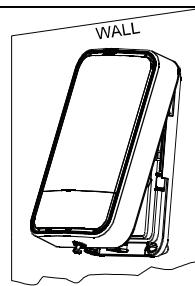

Fig. 1b – Mounting Position
**IMPORTANT!** The MCS-730/MCS-730 AC siren must be installed on the wall in a vertical position with the screw pointing to the floor only, as illustrated in Figure 1b. The importance of correct positioning of the MCS-730/MCS-730 AC is to enable the siren to function as a waterproof device.